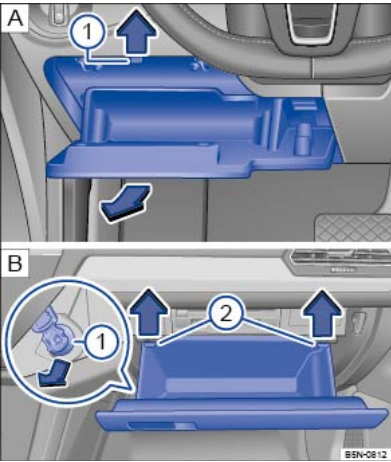

Fig. 208 Dash panel on the driver side: fuse box cover.
- Open the stowage compartment on the driver side ⇒ Fig. 208 .
- Push the retaining lugs \Rightarrow Fig. 208 ① upwards in the direction of the arrow whilst opening the stowage compartment until the fuse carrier can be accessed.